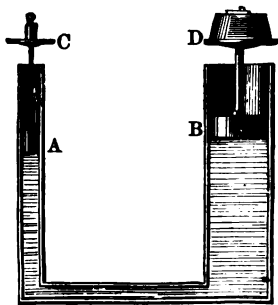
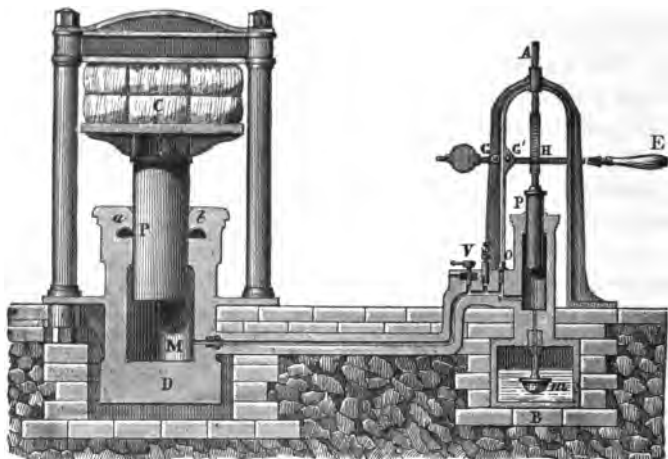

FIG. 51.—THE HYDROSTATIC PARADOX.
FIG. 52.—THE HYDROSTATIC PRESS.
135. The transmitted Pressure proportional to the Surface.—In Fig. 51, if the small tube is 1 inch square and the large one 4, then the area of the water pressing on the large piston is 16 times¹ as great as upon the small one, and with an upward pressure of 1 pound upon each square inch of B, the whole upward pressure then is 16 pounds. This is called the hydrostatic paradox, because it seems paradoxical (or beyond belief) that 1 pound should balance 16 pounds.
136. The Hydrostatic Press.—If more than a pound be placed upon C (Fig. 51), the piston A will be forced down and D will be raised. In this way a small weight can be made to raise a very large one. This is the principle of the hydrostatic press, which is shown in Fig. 52. In order that all of the parts, and the manner of working, may be seen, the figure represents the press cut open through the middle, or *in section*, as this is called. The raising of the piston *p* sucks up water from *m*. When the handle HE is pushed down again, a valve keeps the water from going back into *m*, and it is forced through the narrow tube into M, and the large piston P is raised and pressed against the cotton-bale C with great force. If *p* is 1 inch in diameter, and P 10 inches, for every pound down upon *p* there is a pressure of 100 pounds upon the cotton-bale. This force is usually further increased by using a lever, GE (which class?), to increase the pressure upon *p*.
¹ About 10 per cent. of the power is usually lost by friction. The principle of the hydrostatic press has been known for more than two hundred years, but no way of making the joints tight enough to resist the enormous pressure of the water was found until Bramah, an English inventor, about the beginning of the present century, invented a curved leather collar for this purpose, shown in Fig. 52, at a and b .
3. If in the vessel shown in Fig. 51 one side of A is 2 inches and one side of B 12 inches, and if 5 pounds were put upon C, what weight upon D would it balance? *Ans.* 180 pounds.
11. If GE (Fig. 52) is 3 feet and GH 6 inches, what weight will be balanced by 50 pounds at the end of the handle? *Ans.* 43,200 pounds.